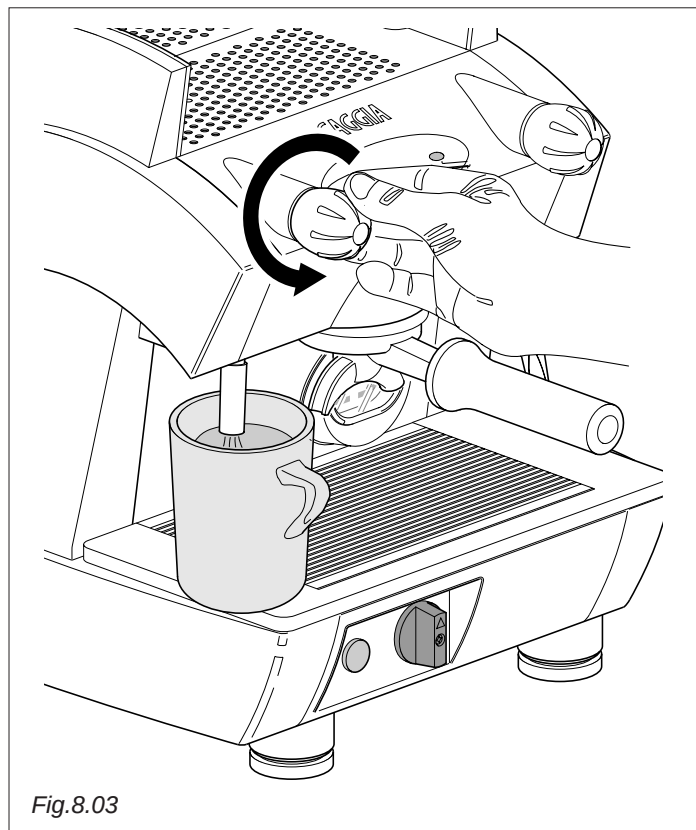

Fig.8.03
- Slowly rotate the tap knob (Fig.8.03) anticlockwise to dispense the hot water.
- After obtaining the desired quantity, take the tap knob back (Fig.8.03) to the initial position by rotating it clockwise.